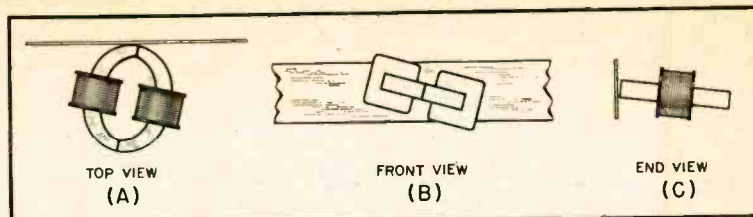

Fig. 4. Gap alignment terminology: (A) Longitudinal deviation; (B) lateral deviation; (C) transverse deviation.
**Transverse Deviation:** An angular displacement of the working face of the gap in the transverse plane of the tape about the longitudinal axis. This misalignment prevents the full width of the magnetic track from coming in contact with the working face of the gap and results in lowered recording and pickup levels. It has the same effect as reducing track width. (See Fig. 4)